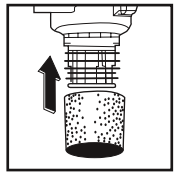

Fig. 2
3. Carefully slide de foam sleeve filter over the filter cage. Make sure all the cage is covered (Figs. 2 and 3)